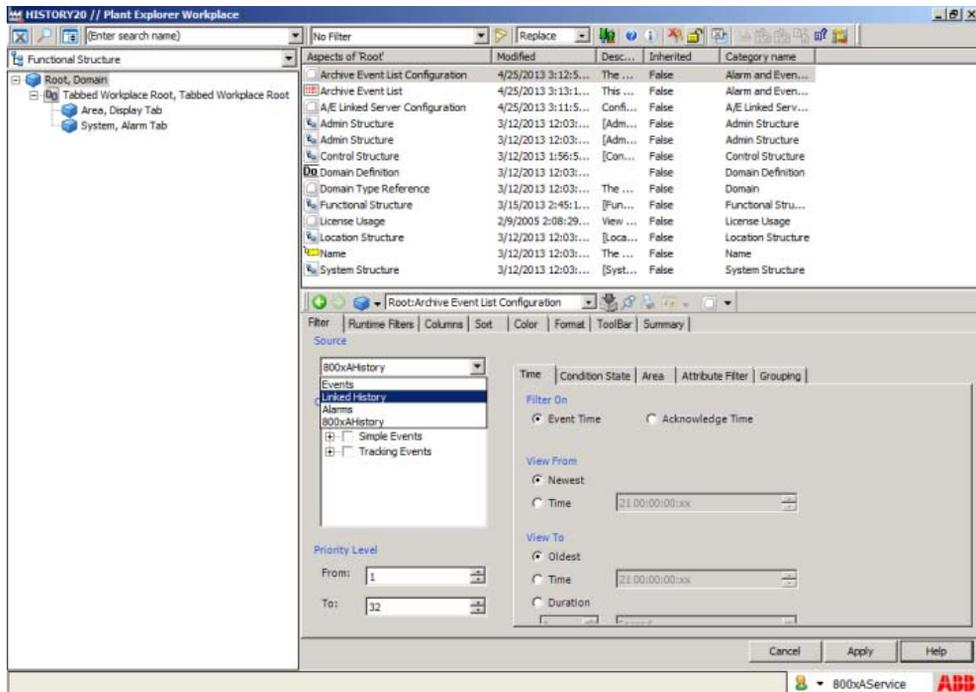

Figure 254. Archived Event data retrieval
1. Select Linked History from Source drop-down list as shown in Figure 254.